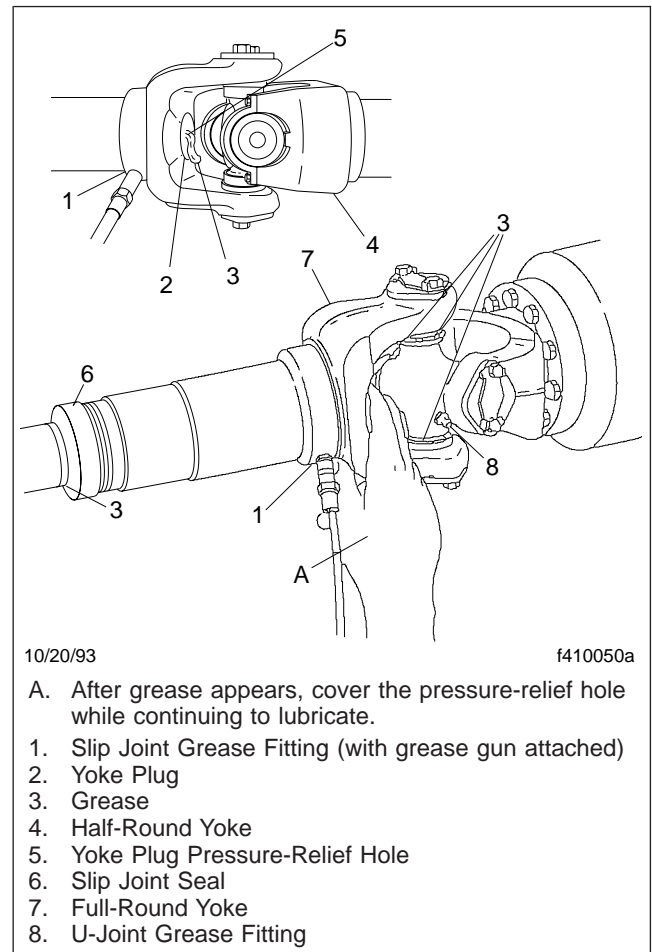

Fig. 4, Slip Joint and U-Joint Lubricating
8. For driveshafts with slip joints, check to be sure the yoke plug is not loose or missing. See Fig. 4, Ref. 2. Repair or replace the yoke plug as needed. If the yoke plug is missing, the splined shaft may be hitting the plug and knocking it out; contact your Regional Service Office for assistance in determining the correct driveshaft length.
1. Wipe all old grease and dirt from each U-joint grease fitting. See Fig. 4, Ref. 8.
1. Wipe all old grease and dirt from the slip joint grease fitting. See **Fig. 4**, Ref. 1.
2. Use a hand-type grease gun or a high-pressure gun with a low-pressure adapter, to lubricate the slip joint. Add multipurpose chassis grease (lithium 12-hydroxy stearate, NLGI grade 1 or grade 2, with EP additives) until it appears at the pressure-relief hole in the yoke plug. Then cover the relief hole with your finger, while continuing to apply gun pressure until new grease appears at the slip joint seal. See **Fig. 4**. This ensures complete lubrication of the splines.